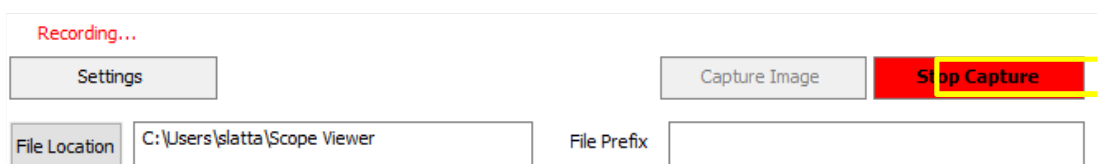

Figure 5
3. To stop recording, click *Stop Capture*. (Fig 5).